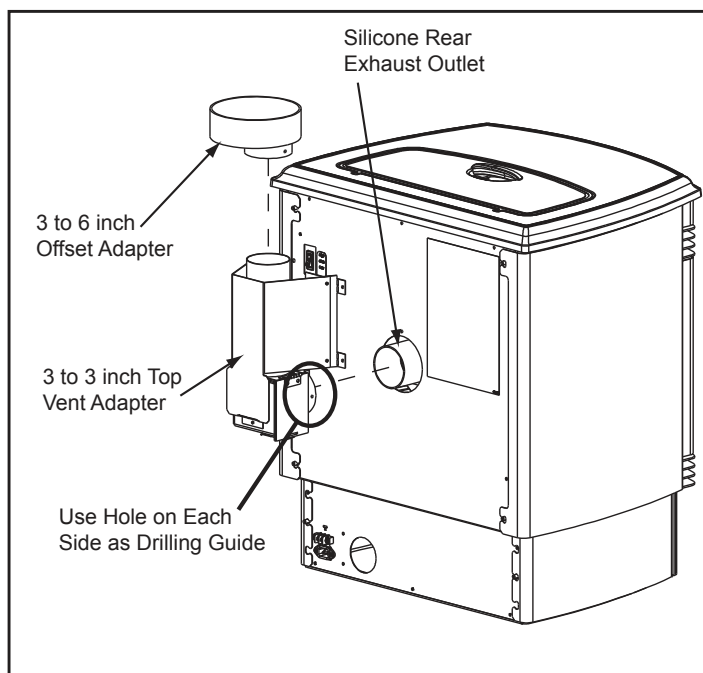

Figure 19.1
1. Put a layer of high temperature silicone on the 3 inch (76mm) exhaust outlet. **Do not put silicone inside of pipe.** **Figure 19.1**
2. Slide the top vent adapter onto the rear exhaust outlet and adjust the assembly to a vertical position. **Figure 19.1.**
5. Drill 2 holes with #26 drill bit through the rear exhaust outlet using the 2 holes already in the short horizontal pipe in the top vent adapter as a guide. Install the 2 screws. **Figure 19.1.**
1. Put a layer of high temperature silicone on the 3 inch (76mm) exhaust outlet. **Do not put silicone inside of pipe.** **Figure 19.1.**